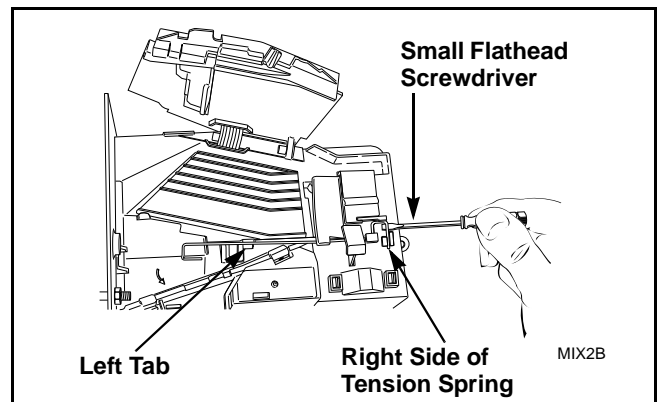

Figure 5
- (2) Open cover for coin drop.
- (3) Place a small flathead screwdriver under right side of tension spring and lift up. Refer to *Figure 5*.
- (4) Use screwdriver to move spring approximately 3 mm to left.
- (5) Lift spring over left tab. Refer to *Figure 5*.
- (13) Lift spring gently to place in position under left tab.
(14) Push spring to right until it snaps into position. Refer to *Figure 5*.
(15) Close coin drop cover.